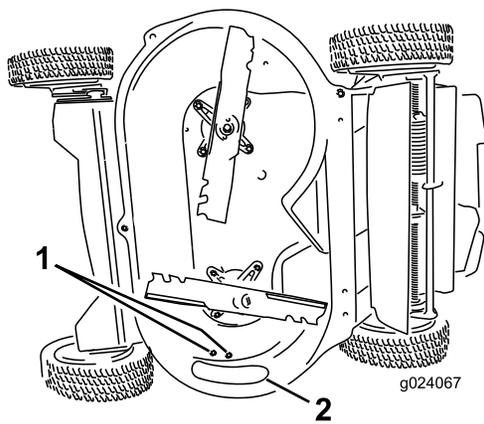

Figure 7
1. Remove the 2 hex-head bolts (3/8-inch) that secure the side-discharge-door assembly onto the mower housing (Figure 7), and remove the side-discharge door from the machine.